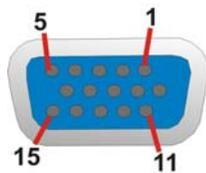

Figure 3-33: VGA Connector
- CN Pinouts:** See **Figure 3-33** an **Table 3-34**